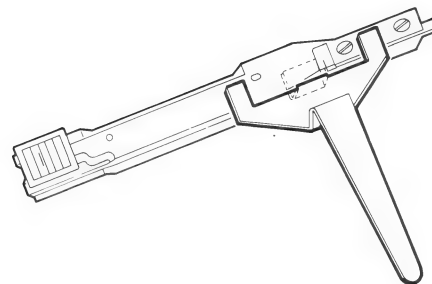

Figure 4.2.8a
- For this use the head presentation tool (Figure 4.2.8a)